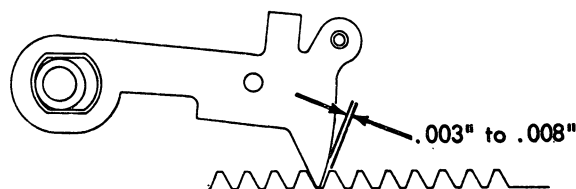
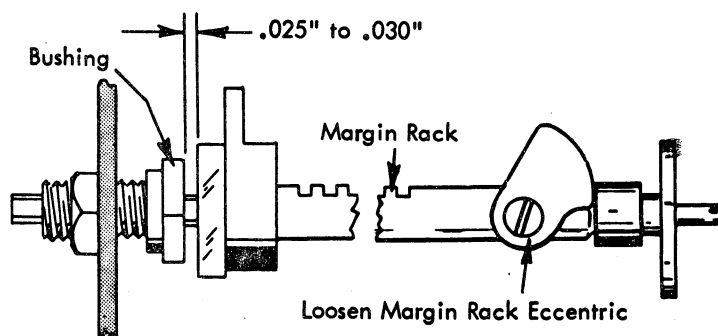

FIGURE 210. Escapement Pawl Check
FIGURE 211. Overbank Adjustment (Early)
- a. **Early Style** - With the carrier held fully to the left against the margin stop, a clearance of .003" to .008" should exist between the working surfaces of the escapement pawl and the escapement rack tooth (Fig. 210). Adjust the left hand margin rack bushing to obtain this condition (Fig. 211).